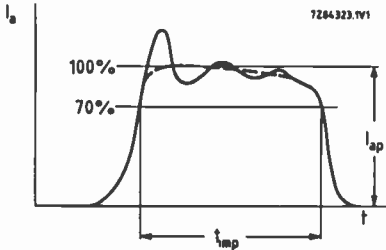

Fig. 1 Current pulse.
- t_{imp} The pulse duration t_{imp} is defined as the time interval between the two points on the current pulse at which the current is 70% of the smooth peak current (see Fig.1).